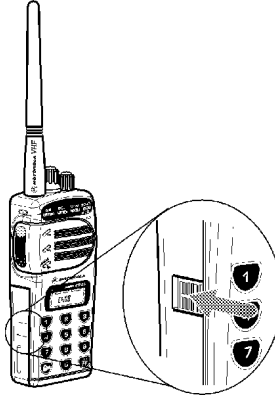

Figure 3-1 • Slide Battery Latch
- a. Slide latches away from the front panel on both sides of the radio to unlock battery compartment (Figure 3-1).